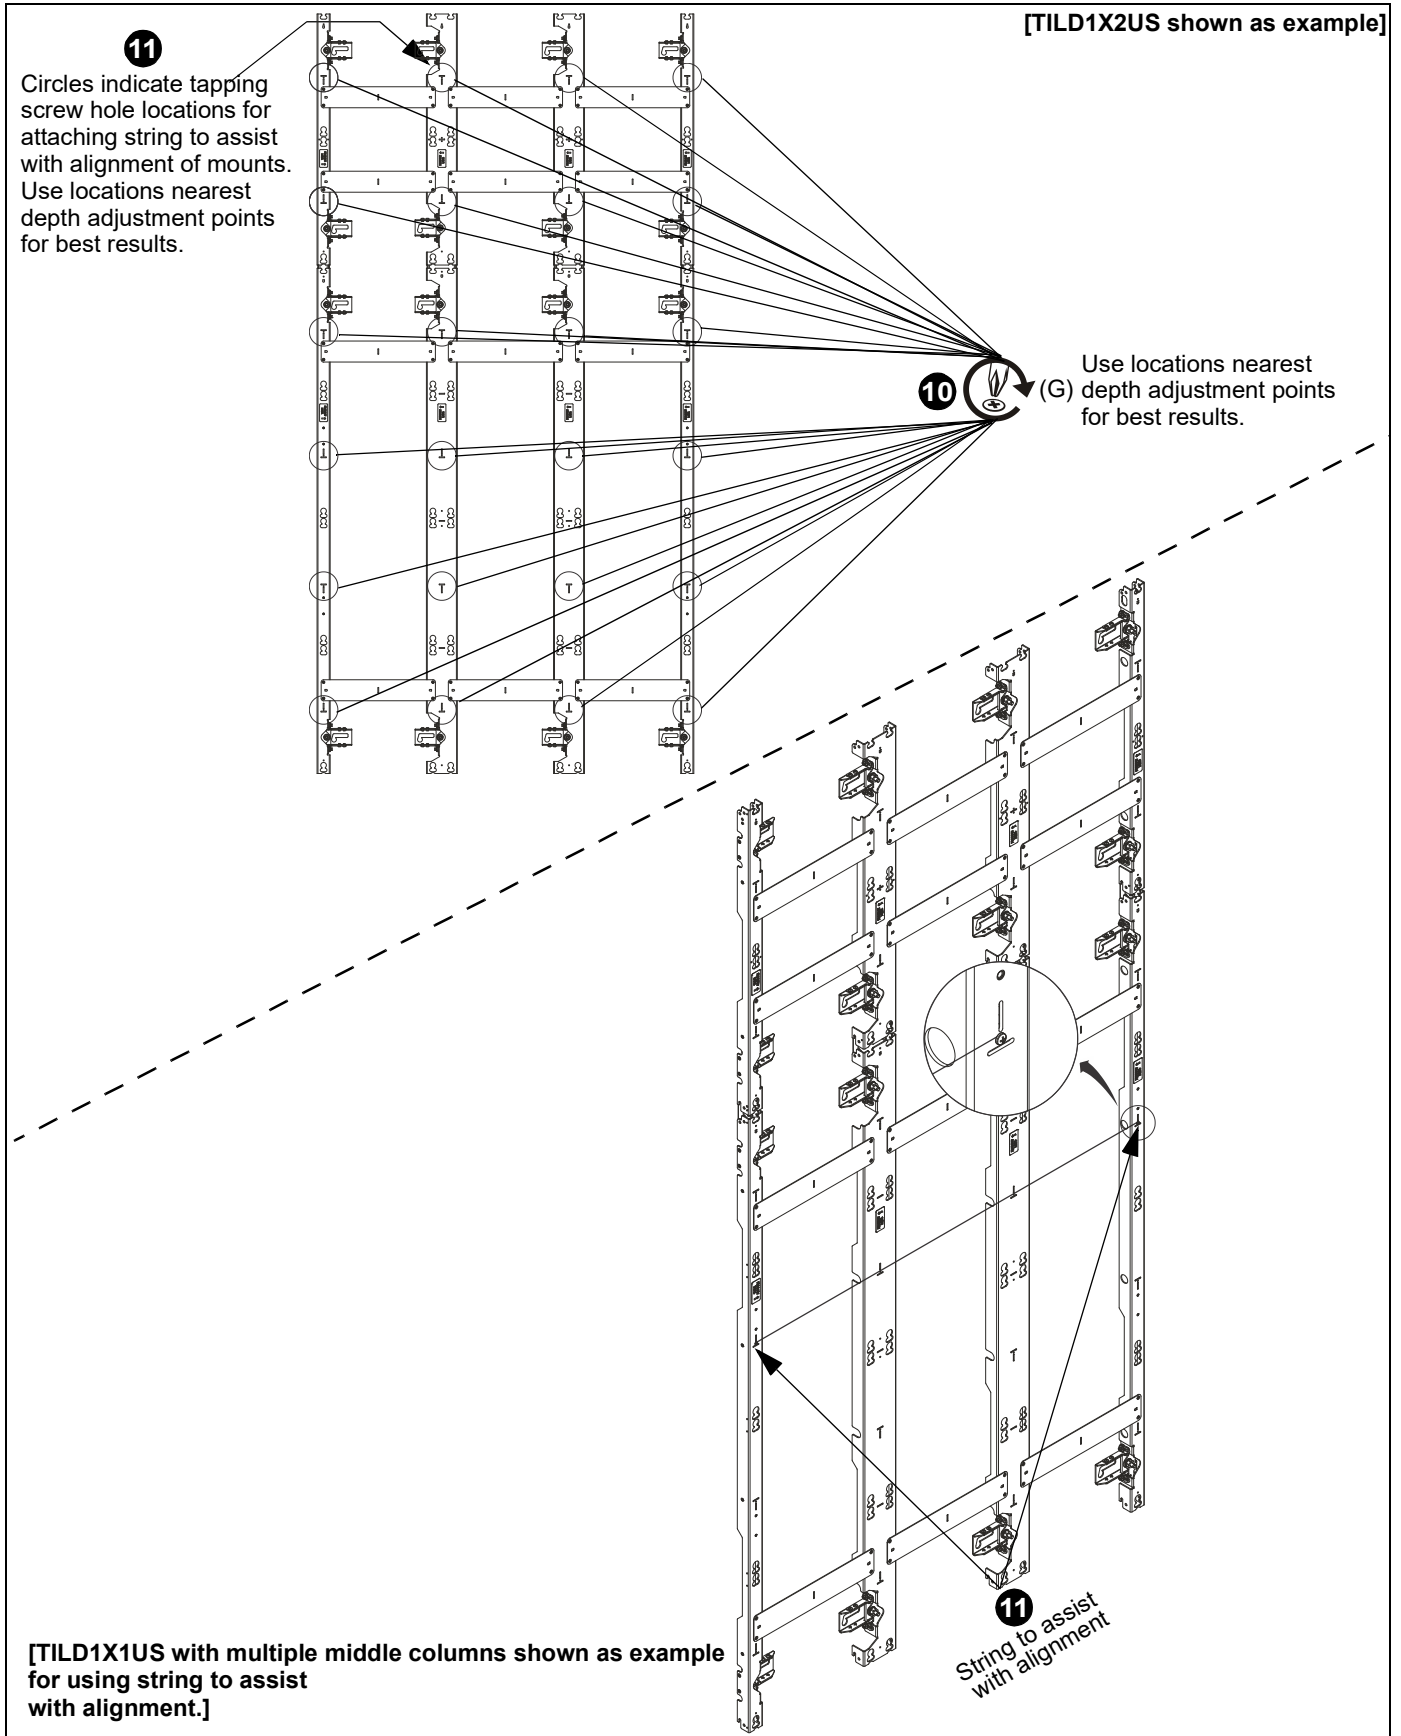

Figure 18
9. Using a drill driver makes installation of the tapping screws (C) easier.
10. Install the remaining #10 x 1/2" self-tapping screws (G) on the mount, as necessary, to assist in centering the LED housings. (See Figure 18)
11. Run a string between the self-tapping screws installed in **Step 7** to assist with alignment across long sections of mounts. (See Figure 18)